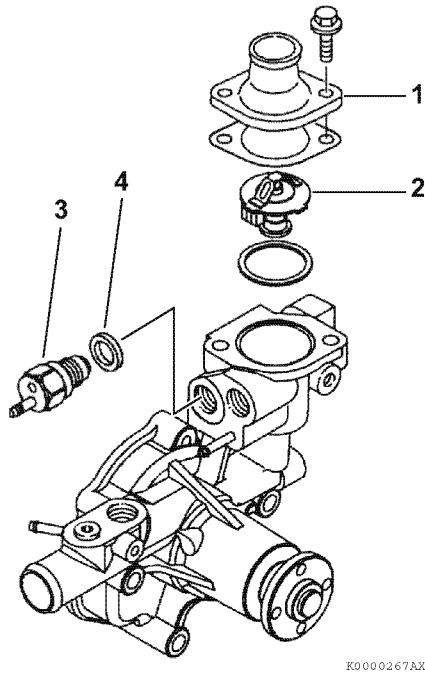

Figure 8-8
1. Remove the thermostat cover (1, **Figure 8-8**). Discard the gasket.
2. Remove the thermostat (2, **Figure 8-8**). Discard the O-ring. Remove the temperature switch (3, **Figure 8-8**) and gasket (4, **Figure 8-8**). Discard the gasket.